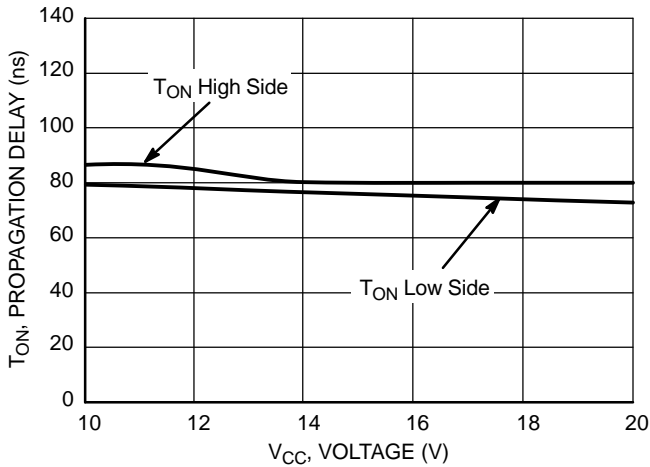

**Figure 10. Input/Output Cross Conduction Output Protection Timing Diagram (B Version)**
4. Version B integrates a dead time in order to prevent any cross conduction between  $DRV\_HI$  and  $DRV\_LO$ . See timing diagram of Figure 10.